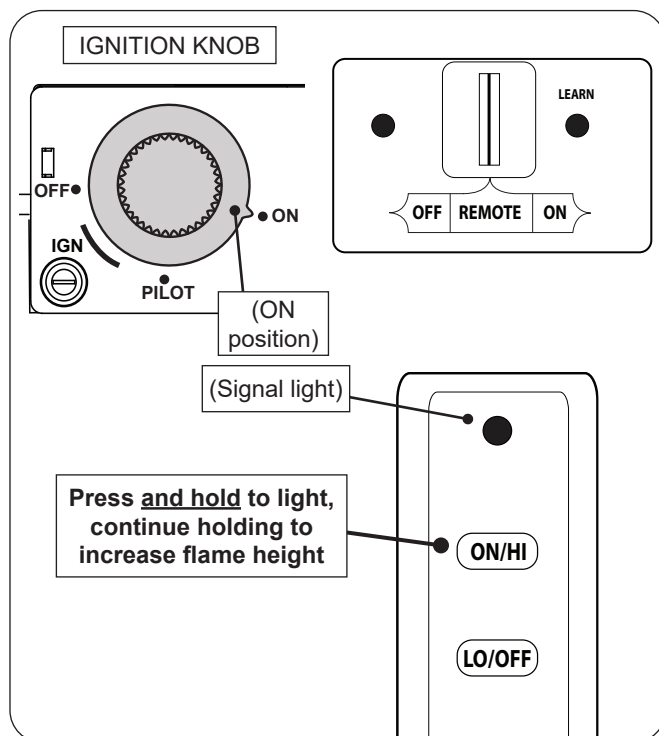

Fig. 28-1 Remote lighting
1. Ensure the pilot is burning. Turn the ignition knob counterclockwise ↶ to **ON** (see Fig. 28-1).
2. Locate the 3-position switch on the remote receiver, and slide the switch to **REMOTE** (see Fig. 28-1).
3. Locate the remote transmitter and press and hold the **ON/HI** button (see Fig. 28-1). The ignition sequence will begin.